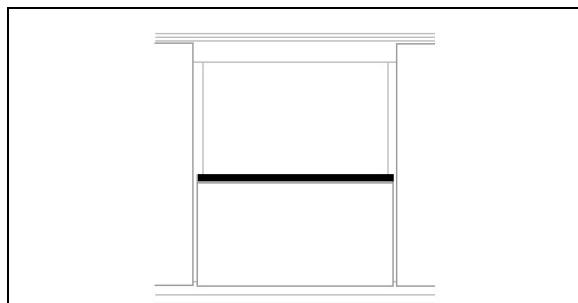

FIGURE 59 : HALF-WINDOW INSTALLATION - SIKA AKTIVATOR
6. **HALF-WINDOW ONLY:** clean the sliding or awning window frame with anti-silicone and then, apply Sika Aktivator as shown on FIGURE 59;